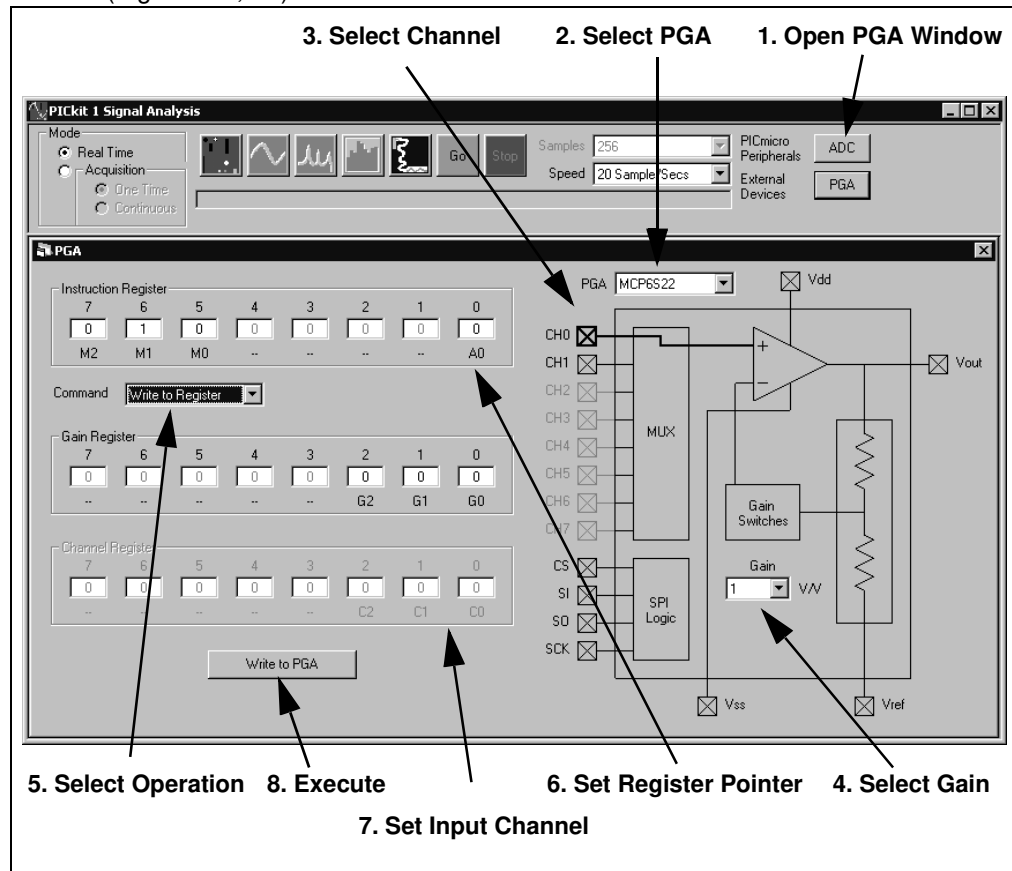

FIGURE 3-2: PGA Configuration.
The PICkit 1 Signal Analysis PC Program can configure the PGA; see Figure 3-2. The MCP6S22 PGA defaults to Gain = 1 and to input CH0 when it powers up.
- a. Select **Write to Register** from the indicated pull-down list. (Figure 3-2, #5)
- b. Set A0 = 1. (Figure 3-2, #6)
- c. Set C2:C0 to all zeros. (Figure 3-2, #7)
- d. Execute the command by clicking on the **Write to PGA** button. (Figure 3-2, #8)